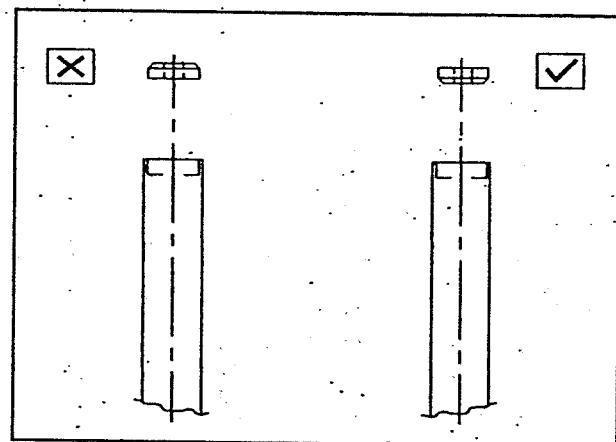

Fig 6.35
- The sealing ring of the front fork of AX-100 R, AX-100 R AC & AX-100 Supra should be fitted with the conical side towards the tube (fig 6.35)